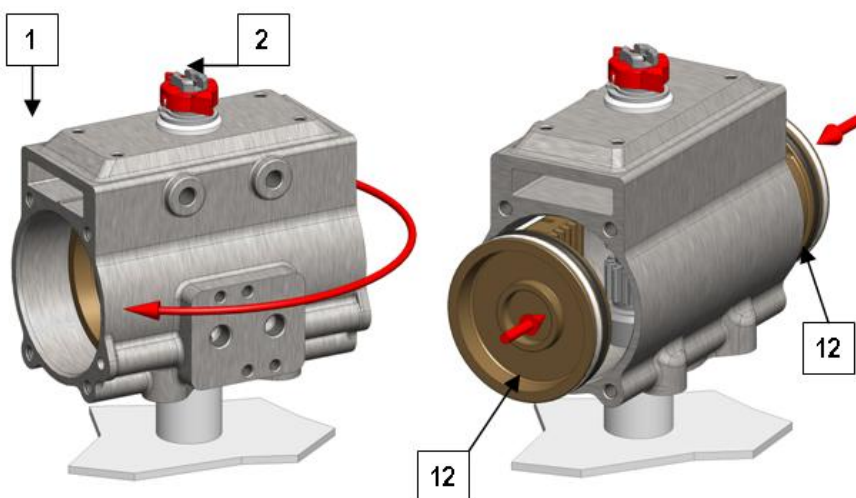

Fig.4
8. Rotate the cylinder (1) in **CLOCKWISE** direction (top view) holding the pinion (2) so as to release the rack of the pistons (12) from the pinion (2) and to push the pistons towards to the cylinder ends. Now both pistons (12) can be removed see Fig. 4.